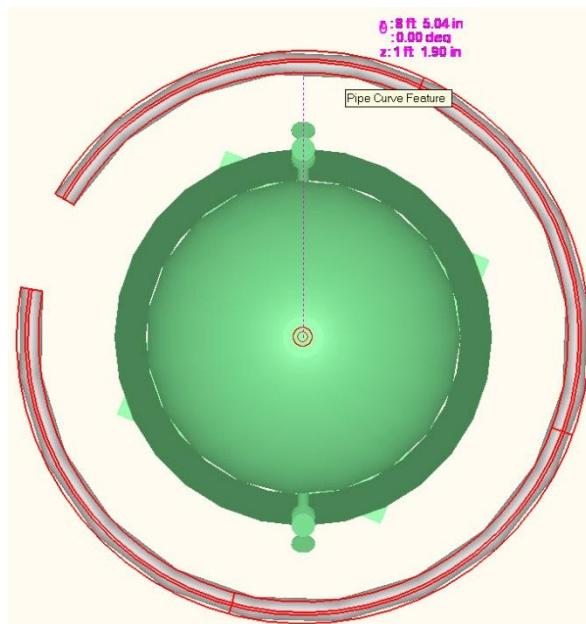

Figure 11.32: Insert Component Position
37. Select the pipe by left-clicking it in the graphic display. Make sure the pinpoint marker is in the appropriate position as shown in Figure 11.32.